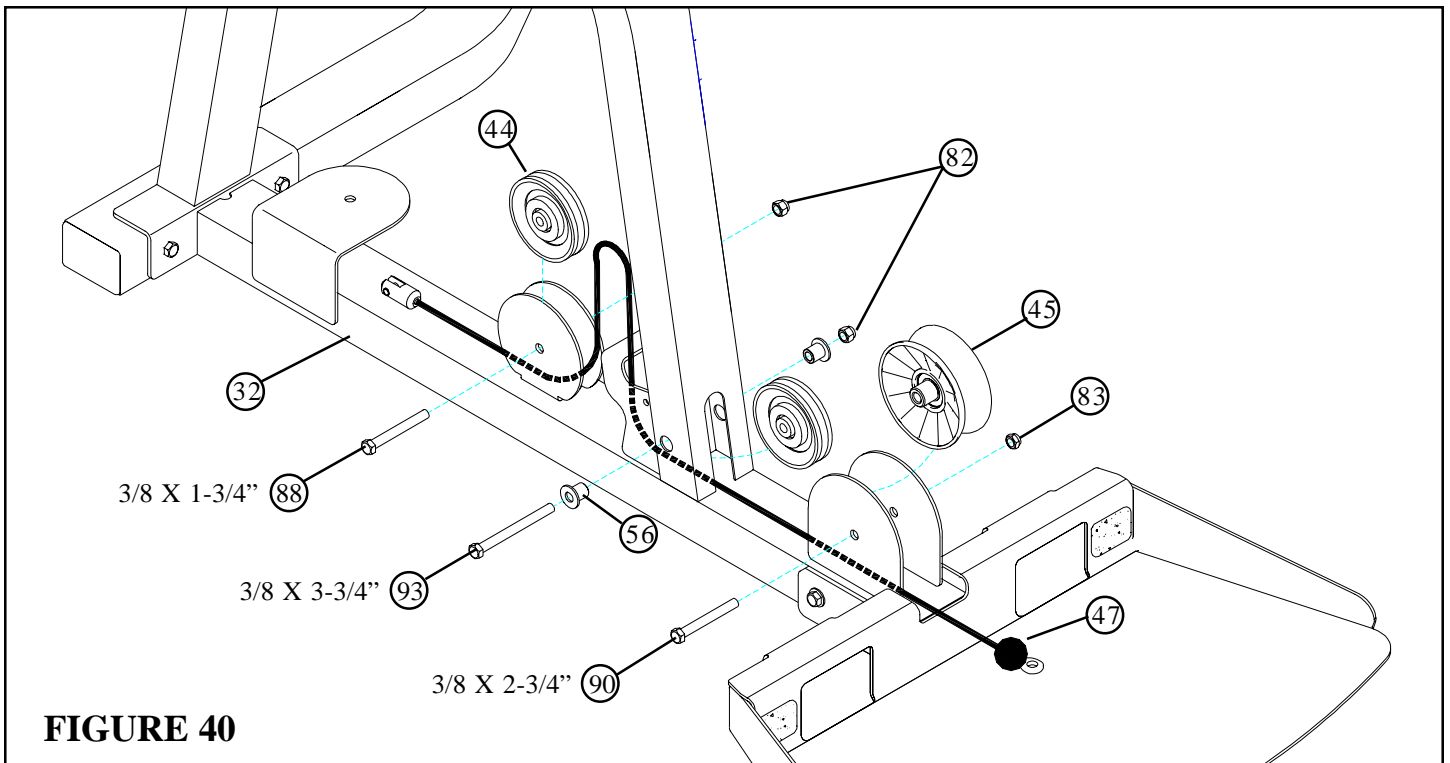

FIGURE 40
- Route the PRESS/LEG CABLE (47) under one 4-1/2" V-GROOVE PULLEY (45) and assemble the 4-1/2" V-GROOVE PULLEY (45) to the vertical bracket on the PRESS FRAME (32) using 3/8 X 2-3/4" BOLT (90) and one 3/8" LOW HEIGHT LOCK NUT (83). See FIGURE 40.
- Securely assemble the PRESS/LEG CABLE (47) and one 3-1/2" PULLEY (44) to the PRESS FRAME (32) using one 3/8 X 3-3/4" BOLT (93), two 3/8" X 1-1/16" FLANGE SPACERS (56) and one 3/8" LOCKNUT (82).
- Route the PRESS/LEG CABLE (47) around one 3-1/2" PULLEY (44) and assemble to the vertical bracket on the PRESS FRAME (32) using one 3/8 X 1-3/4" BOLT (88) and one 3/8" LOCK NUT (82). See FIGURE 40.